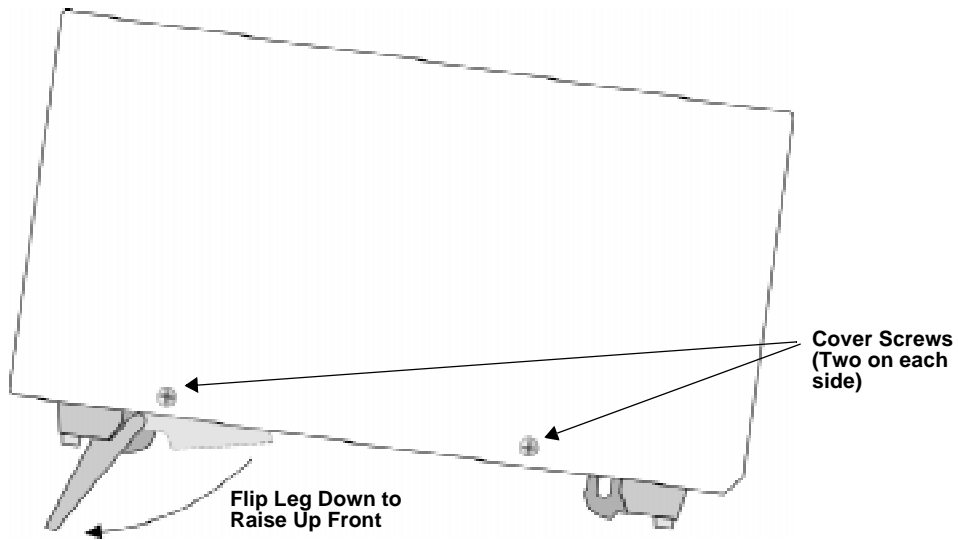

Figure 3-4 Side View
1. Remove the 9500's cover by unscrewing the four cover screws located on both sides of the receiver. (See Figure 3-4 for the cover screw locations.)
1. Remove the 9500's cover by unscrewing the four cover screws located on both the sides of the receiver. (See Figure 3-4 for front plate retaining screw locations.)
1. Remove the cover of the 9500 receiver by loosening cover screws. (See Figure 3-4 for cover screws locations.)
5. Replace the cover of the 9500 receiver. (See Figure 3-4 for cover screws locations.)